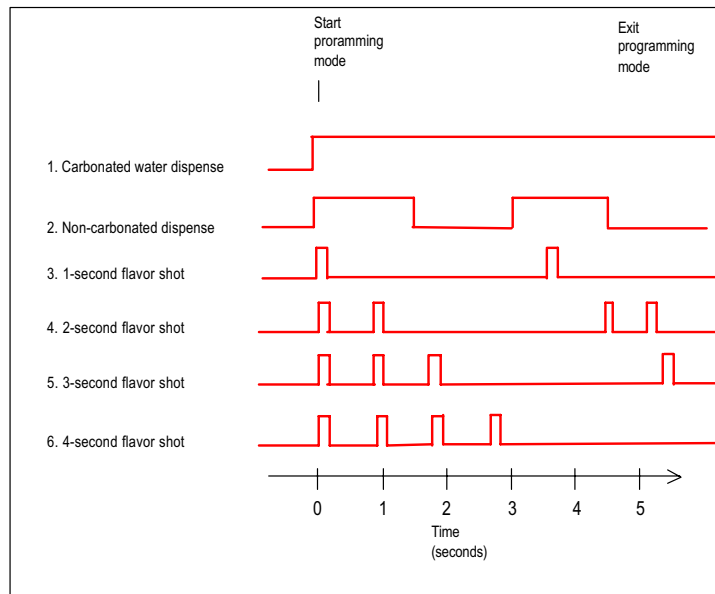

FIGURE 1
Once in programming mode, each dispense button LED flashes in a sequence cycle according to one (1) of six (6) dispense types. For Brand Keypads, only dispense types 1 and 2 should be used. For Bonus Flavor Keypads, dispense types 3 through 6 are used. The six (6) dispense types are described below, and shown in a timing diagram in FIGURE 1:
- **Dispense Type 5, 3-second flavor shot:** LED flashes three (3) times for $\frac{1}{4}$ second ON, $\frac{1}{2}$ second OFF, followed by 3 seconds OFF
- **Dispense Type 6, 4-second flavor shot:** LED flashes four (4) times for $\frac{1}{4}$ second ON, $\frac{1}{2}$ second OFF, followed by 3 seconds OFF